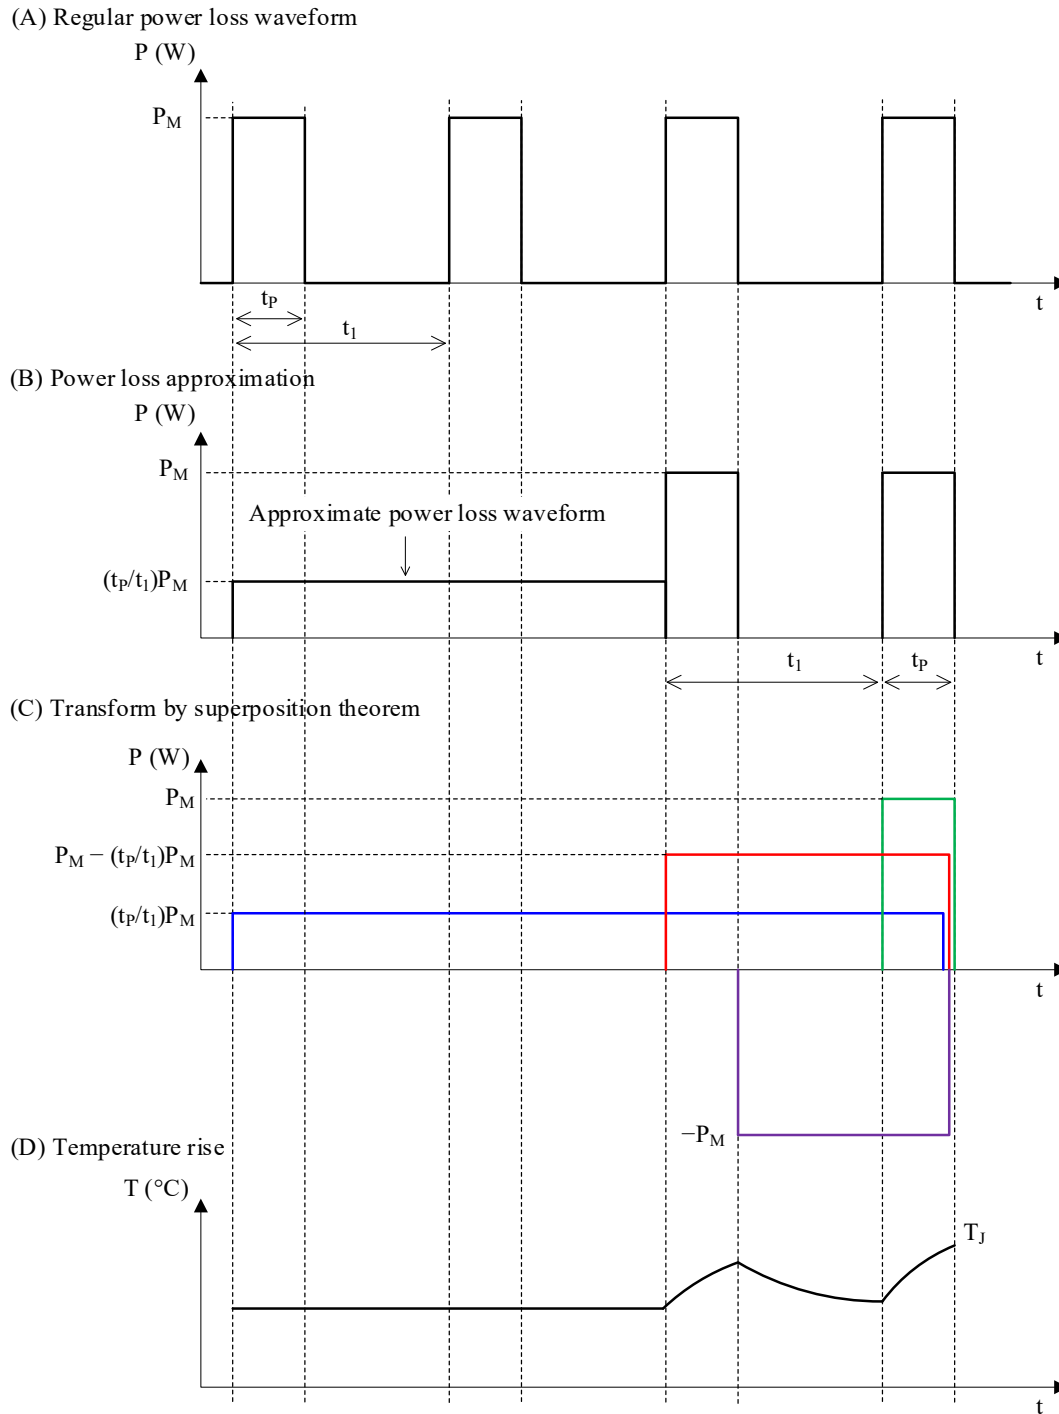

Figure 3-2. Superposition Theorem
(A) in Figure 3-2 shows the calculation of the junction temperature,  $T_J$ , when a regular square wave power loss occurs in the diode. To easily calculate  $T_J$ , assume that power losses for two cycles occur in the average power loss over the entire period.
As shown in (B) and (C) in Figure 3-2,  $T_J$  is calculated by approximating the power loss and using the superposition theorem.
Next, the junction temperature is calculated for each block in (C) in Figure 3-2.